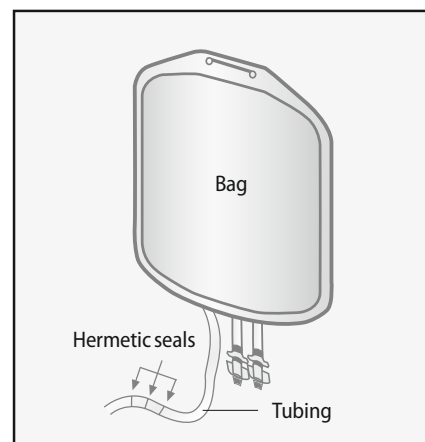

Figure 4-1.1: Sealing a bag. Use heat sealer to make the seal in the tubing. Sever at center seal.
6. Using the heat sealer, seal off the tubing and separate bags, leaving at least 15 cm of tubing on the Cell Preparation for further connections (see Figure 4-1.1). Keep the original leukapheresis bag until the separation and final analysis of all cells have been accomplished.